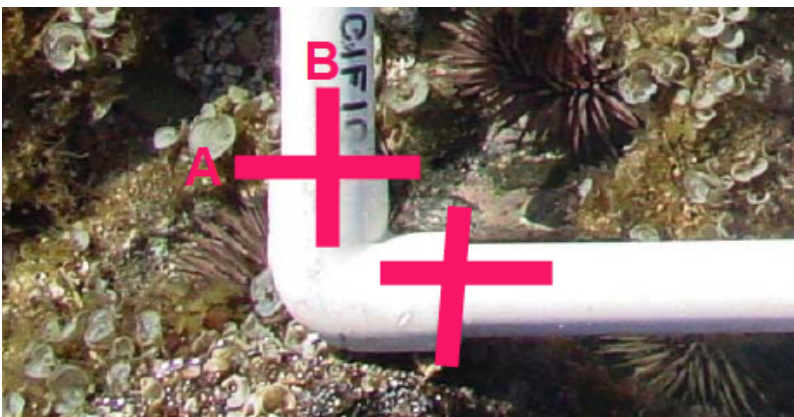

Figure 2. Mark PVC lengths and elbows with permanent marker before gluing
6. When all sides are aligned properly, mark the 12" PVC pipes and their corresponding elbows with a marker at the point where they meet. Make your lines similar to lines "A" and "B" in Fig. 2.